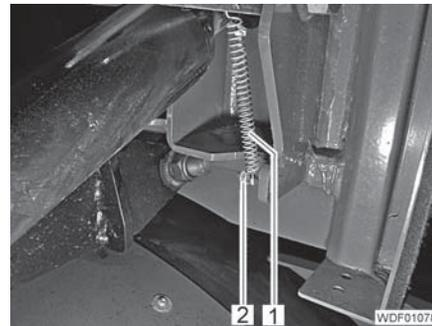

Fig. 347 Spring attachment
- Hook in the spring (Fig. 347,1).
- Screw the nut (Fig. 347,2) with washer onto the thread so that the spring can still be rotated.